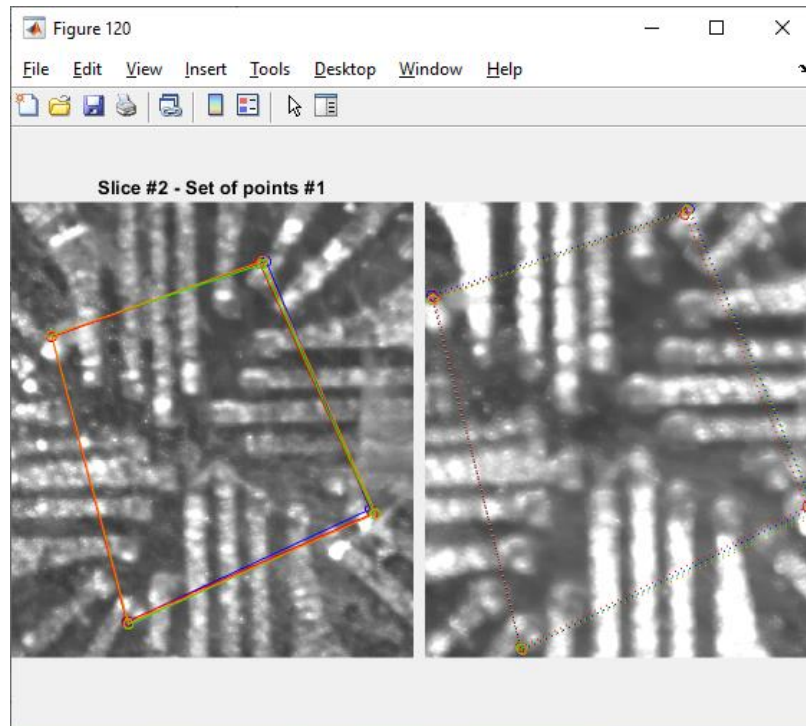

Fig. 110: Matlab figure showing the markers on the un-stretched and stretched images side-by-side overlaid on their respective camera images.
- Figures in the 110's (as shown in **Fig. 110** of this manual) show the two images side-by-side with the selected points for each iteration. Along with the previous figures, these allow the user to assess how well points were selected.